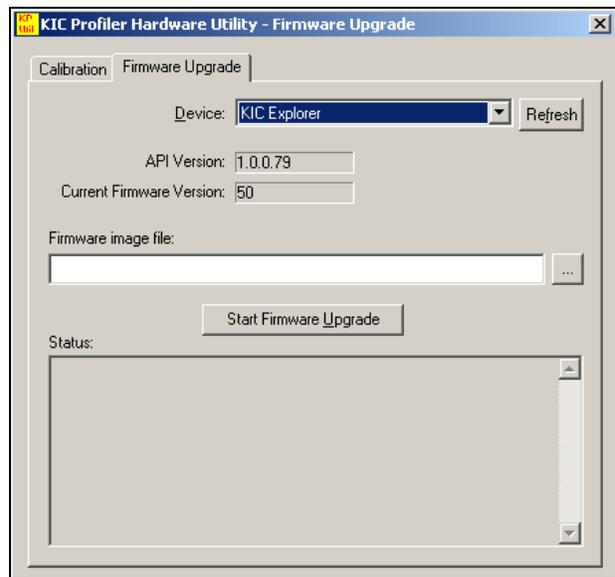

Figure 220
If your *KIC Explorer* is on and connected the *KIC Explorer Utility* will display the *KIC Explorer Device* name (*KIC Explorer*). If the *KIC Explorer Device* field is blank then no device is detected or the device is not displayed, in which case select the *Refresh* button. See Figure 220.
2. Open the *KIC Explorer Utility* software program or if already open select the Refresh button. . See Figure 220.